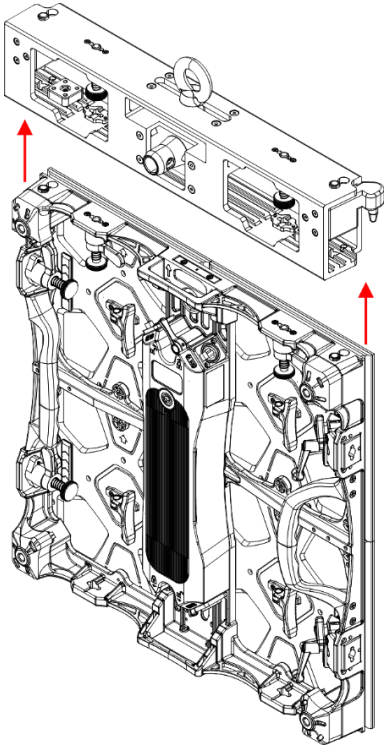
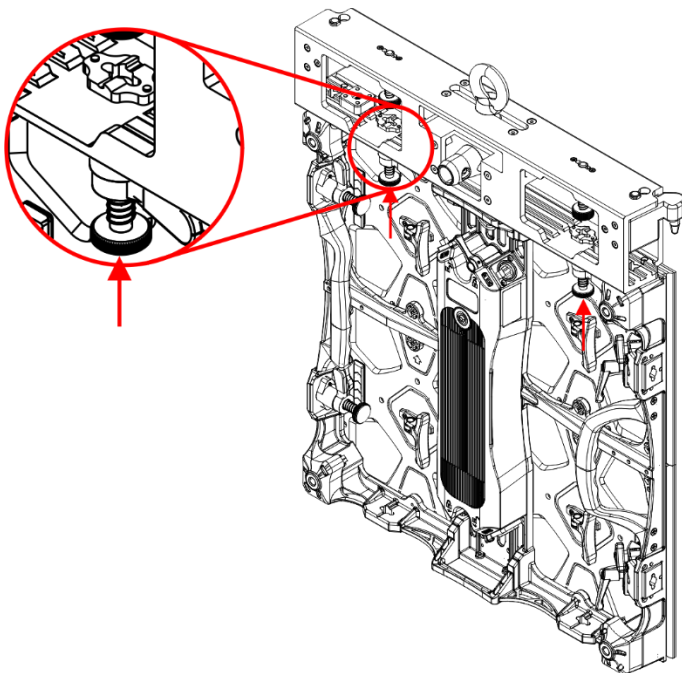

Fig. 31
Fig. 32
- 01) Put a LED screen below the device and let the magnetic strip on top of the LED screen snap to the bottom of the device, as shown in Fig. 31.
- 02) Turn the **lever (C)** counterclockwise.
- 03) Push the left **spring-loaded fast-lock (D)** of the LED screen upwards and turn it by 90° clockwise or counterclockwise, as shown in Fig. 32 and 33.